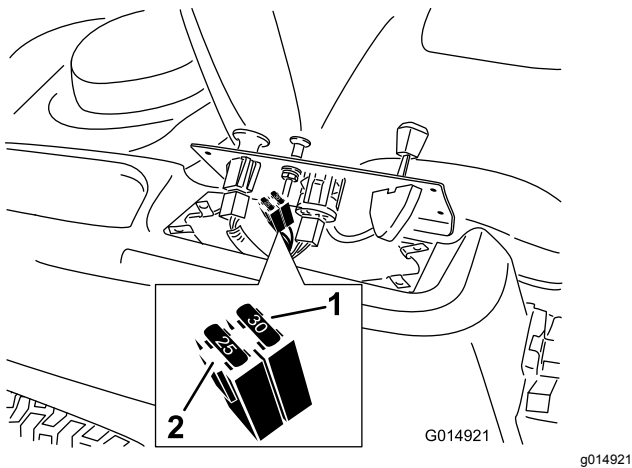

Figure 52
2. Lift the control pane up to access the main wire harness and fuse block (Figure 52).
3. To replace a fuse, pull out the fuse to remove it (Figure 52).